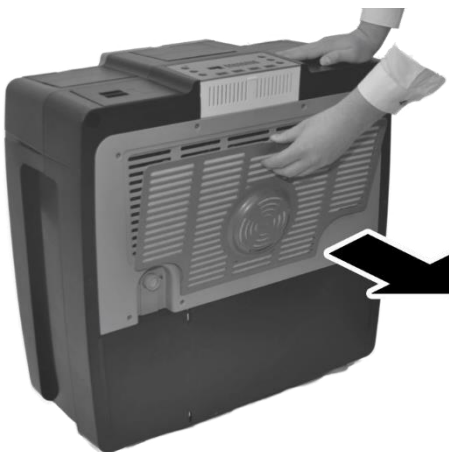

Fig. 28: Opening the intake grille
1. → Open the intake grille by pulling (Fig. 28).